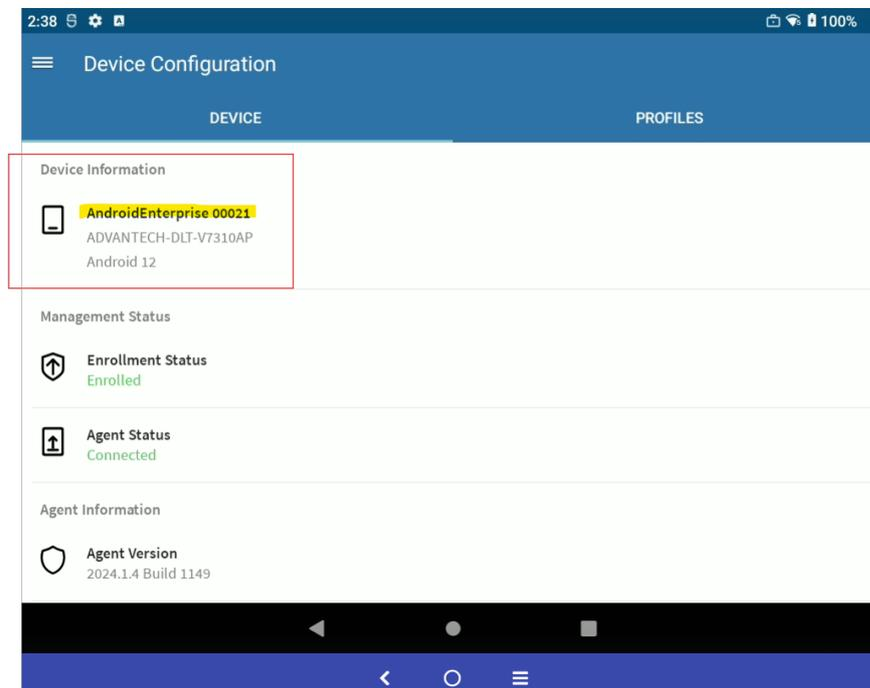

Figure 7-64: SOTI Android Enterprise – Device Information
17. Select **Android Enterprise 00021** related to the model DLT-V7310AP. The number of Android Enterprise must match the number of Android Enterprise section in your DLT. Check the number as described in Step 6 and 7 (Figure 7-64: SOTI Android Enterprise – Device Information).